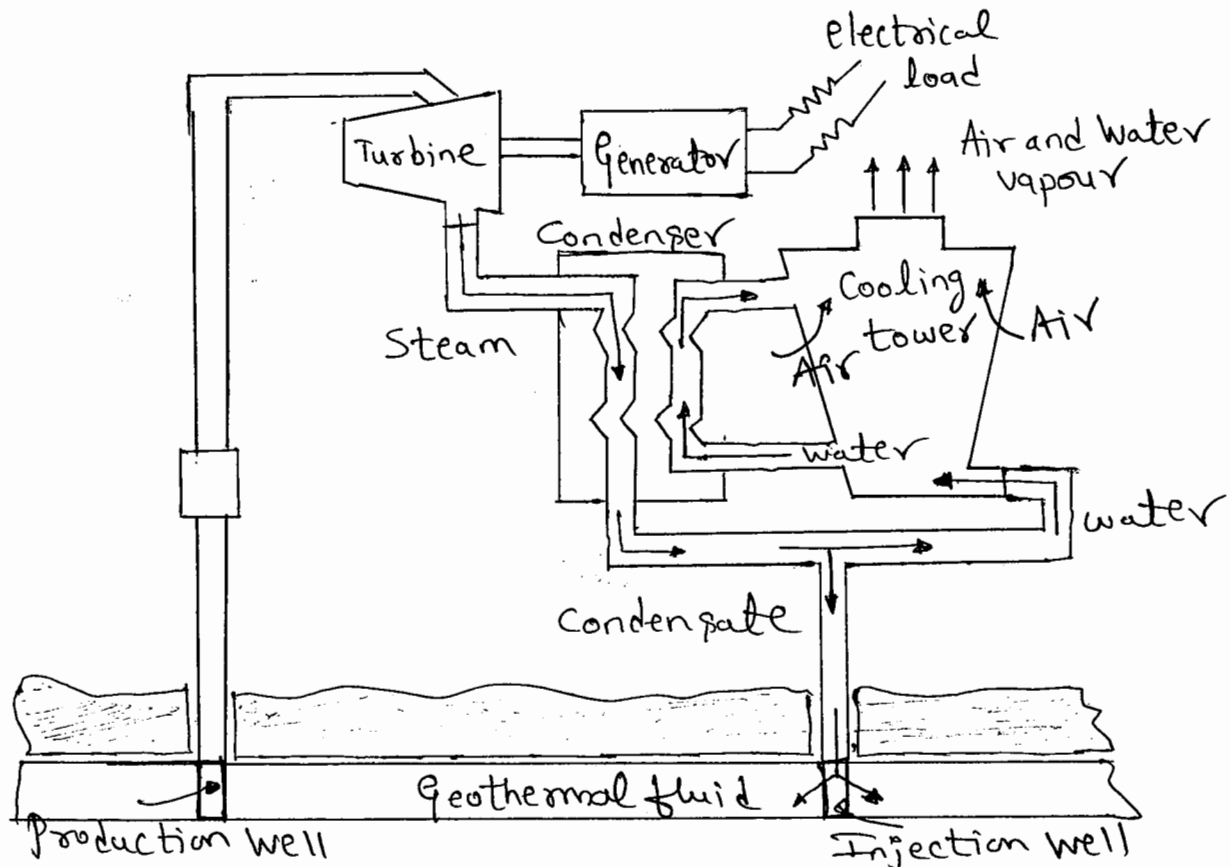

Figure 2. Dry steam geothermal electric power plant.
- * Figure 2 shows a dry steam plant. it was first operated in 1904 in Larderello, Italy. Even so, it is operating for over 100 years longer than any other geothermal conversion technology.